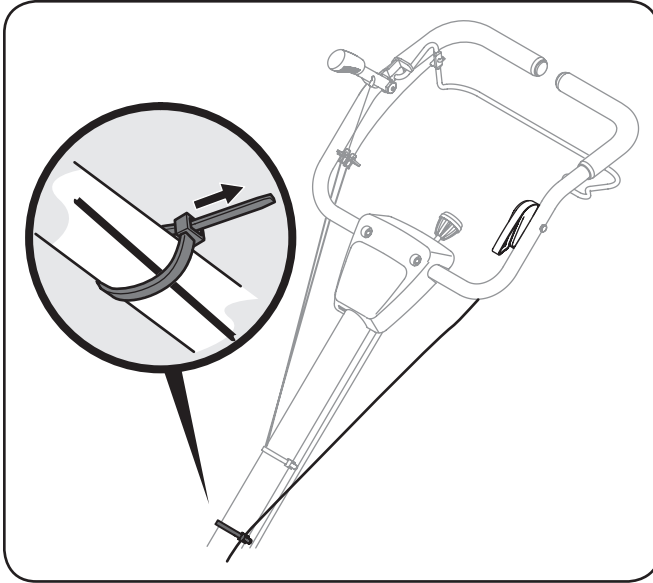

Figure 3-5
- Secure the throttle cable to the handle with a cable tie as shown in Figure 3-5.